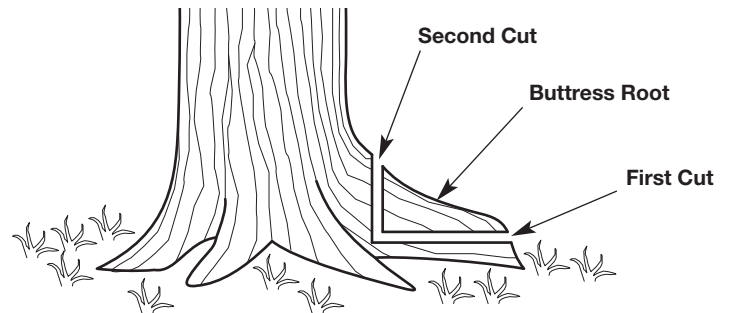

Fig. 8
1. Make a horizontal cut into the buttress root (Fig. 8). To prevent the guide bar from being pinched by the weight of the wood, always make this cut first.
2. Make a vertical cut into the buttress root (Fig. 8).